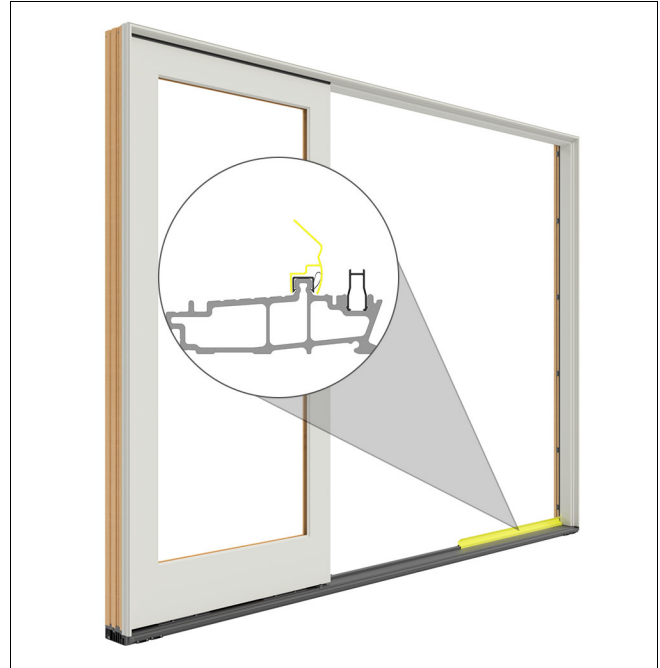

Figure 39
12. Doors with performance sills only: Install the weatherstrip jig on the interior side. Install the leading edge of the jig under the weather strip bulb, then rotate the jig to the exterior so the back edge snaps onto the exterior leg of the weather strip. See Figure 39.